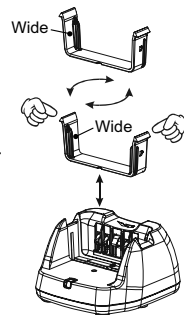

FIGURE 1
- Referring to Figure 1, adjust the direction of the Battery Holder of the **CD-49** Desktop Charger in accordance with the battery pack being charged; Push in both sides of the Battery Holder while pulling up on the Battery Holder to remove it from the charger base, select the correct direction of the Battery Holder for the battery being charged, then